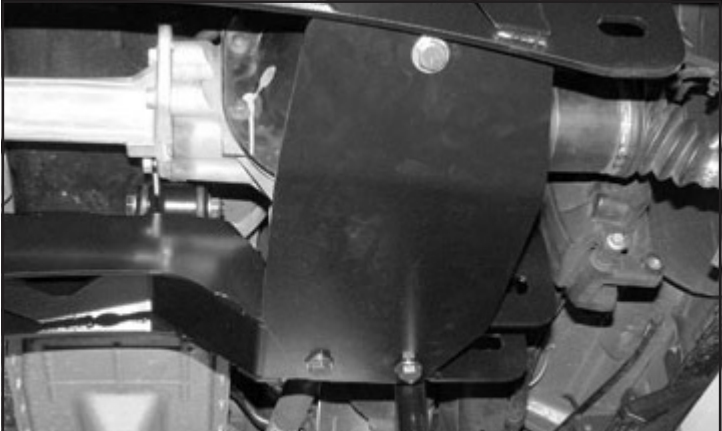

FIGURE 38 - STEP 38
38. Locate the Fabtech skid plate (FT30377BK).The skid plate will span the distance between the front and rear crossmembers directly under the front differential. Attach the end of the skid plate with the single hole to the tab on the back side of the front crossmember using one ½”- 13 x 1-1/4” bolt, washers and a C-lock nut. Lift up the back side of the skid pale and install it to the rear crossmember using two ½”- 13 x 1-1/4” bolts, washers and a C-lock nut. Torque all hardware to 127 ft-lbs. **SEE FIGURE 38** Torque the all upper factory crossmember bolts to 300 ft-lbs. at this time.